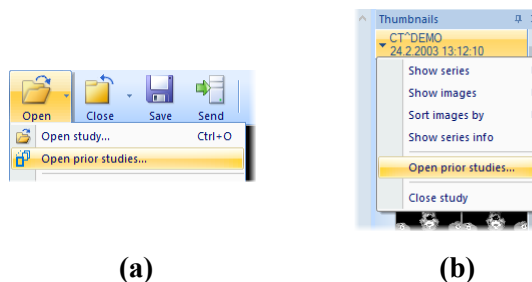

Figure 110 – Display Open prior studies dialog, using Open context menu, b) using thumbnail palette
- Display any image of the base study in the current view and select the **Open prior studies...** item in **Study** main menu or the **Open prior studies...** item in **Open** context menu in the main toolbar (see Figure 110 a)
- or click on the thumbnail in the thumbnails palette, belonging to the base series, and select **Open prior studies...** item in the context menu (see Figure 110 b).